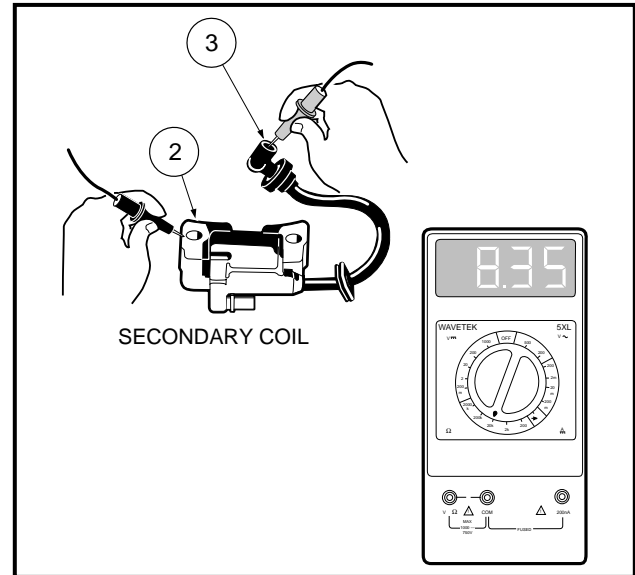

Figure 11-42 Test Ignition Secondary Coil
- 3.2. If the resistance is not between 6.0k - 11.0k Ω (ohms), remove the coil from the engine. **See Ignition Coil Removal, Section 12, Page 12-25**. Retest with a multimeter set to 20k Ω (ohms). Place the black (–) probe of the meter on the core (2), and place the red (+) probe into the end of the spark plug wire (3) (**Figure 11-42, Page 11-36**). If the resistance is not between 6.0k - 11.0k Ω (ohms), replace the coil.